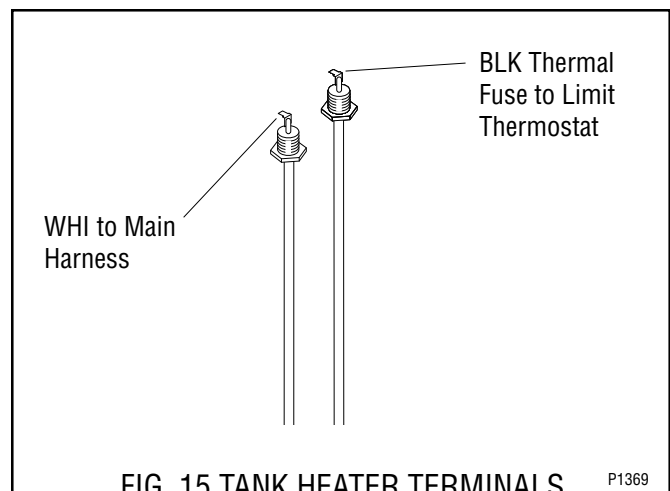

FIG. 15 TANK HEATER TERMINALS
19. Refer to Fig.15 when reconnecting the tank heater wires.